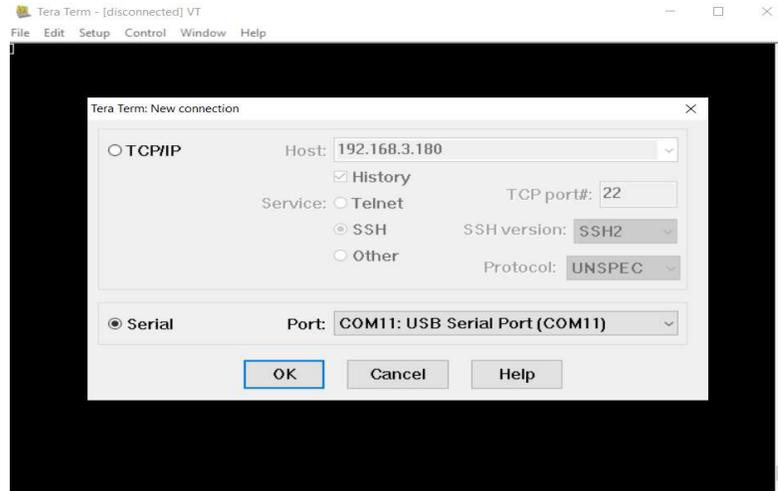

Figure 16: Serial COM Port selection
- Open the Tera Term Tool available on the host PC and select the appropriate serial COM port as mentioned in Figure 16